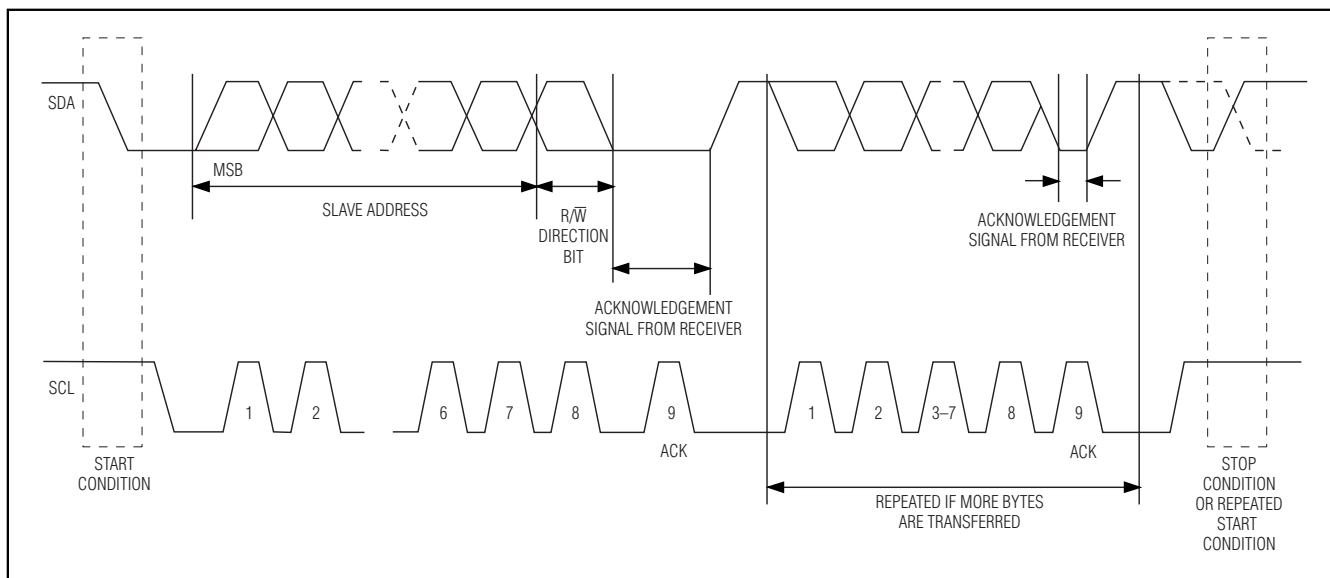

Figure 3. 2-Wire Data Transfer Protocol
found in Figures 3 and 5. Timing information for the 2-wire serial port is provided in the *AC Electrical Characteristics* table for 2-wire serial communications.
**Data Valid:** The state of the data line represents valid data when, after a start condition, the data line is stable for the duration of the high period of the clock signal. The data on the line can be changed during the low period of the clock signal. There is one clock pulse per bit of data. Figures 3 and 5 detail how data transfer is accomplished on the 2-wire bus. Depending upon the state of the R/W bit, two types of data transfer are possible.